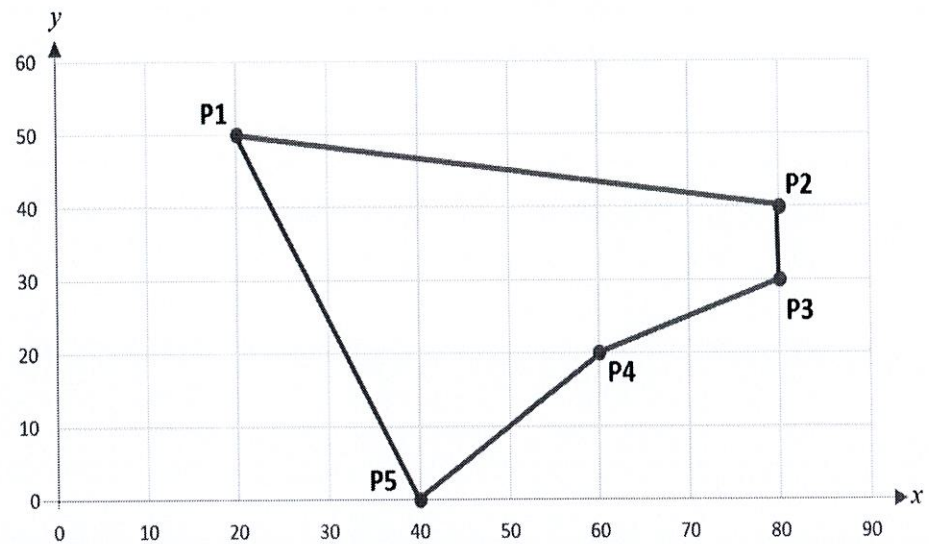

Figure 3(c) / Rajah 3(c)
- (c) CNC is a manufacturing method that uses pre-programmed computer software to control the movement and precision of machine tools. Based on **Figure 3(c)**, write a CNC coordinate using the following system;